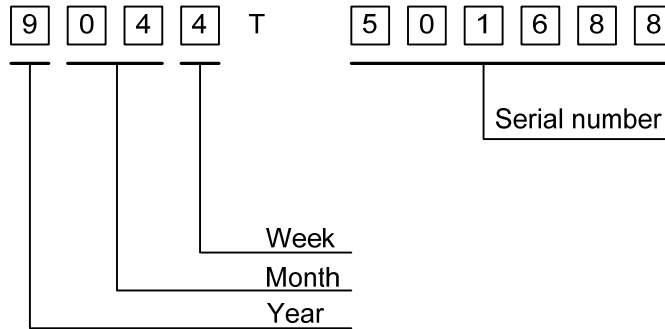

Fig. 13.1
1) The lot mark is showing in Fig.13.1. First 4 digits are used to represent production lot and the last 6 digits are the serial number.